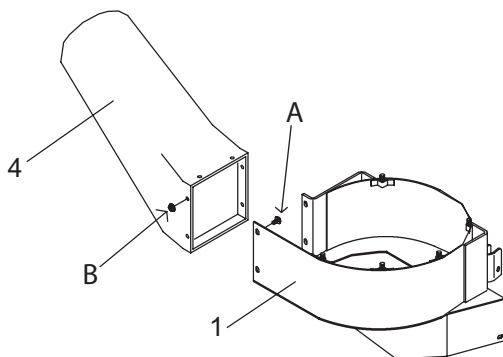

Figure 2. Hose Adapter Installation
1. Attach hose adapter (4) to vacuum housing (1) using six 1/4 x 1/2" truss head bolts (A). To prevent grass buildup inside the adapter, install bolts with nuts (B) on the outside as shown in Figure 2.